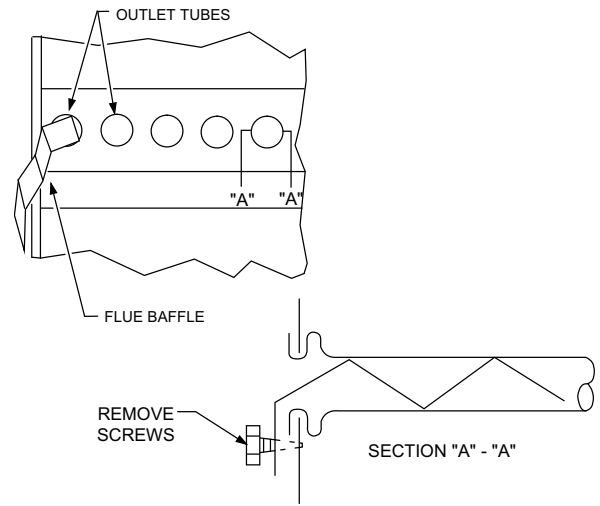

FIGURE 56 - TYPICAL FLUE BAFFLE
3. This will provide access to flue baffles, then remove the flue baffles from the tube interiors. To remove, the flue baffles, remove the stainless steel screws from the vest panel. Refer to Figure 56.